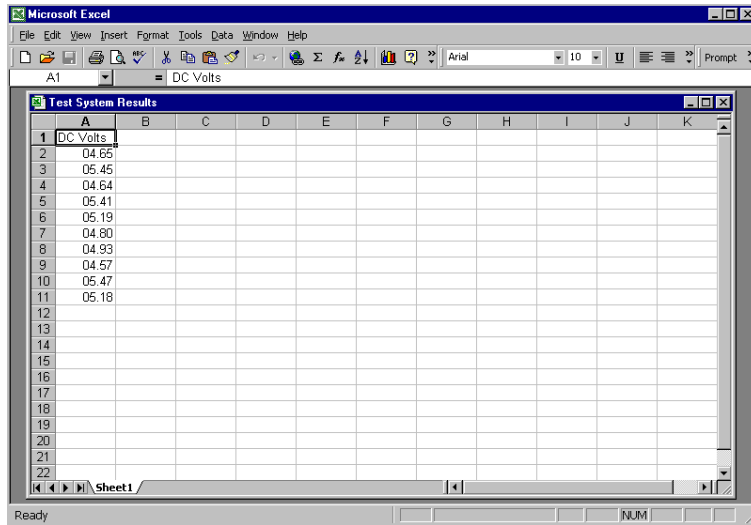
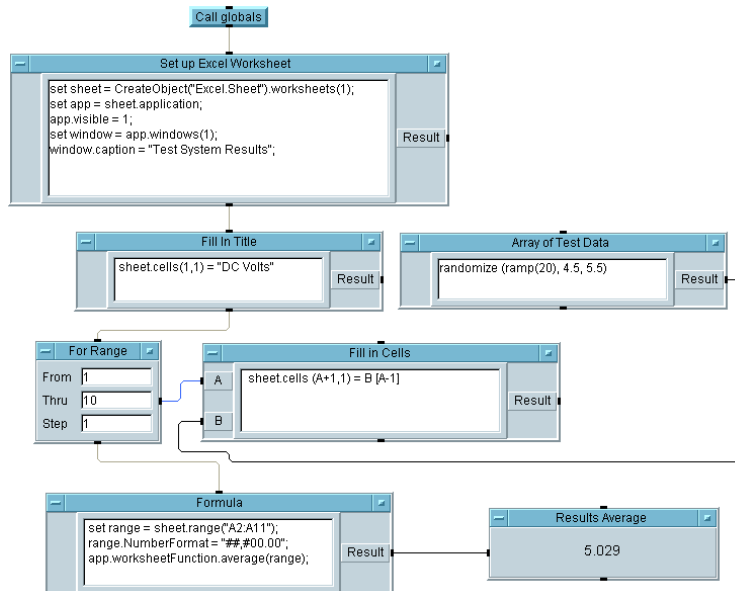

Figure 6-10. Excel Worksheet for Array of Test Data
Figure 6-11. Program for Array of Test Data
5. Save the program as `report_template.vee` and run it. Compare it to the Excel worksheet as shown in Figure 6-10 and the complete program as shown in Figure 6-11.